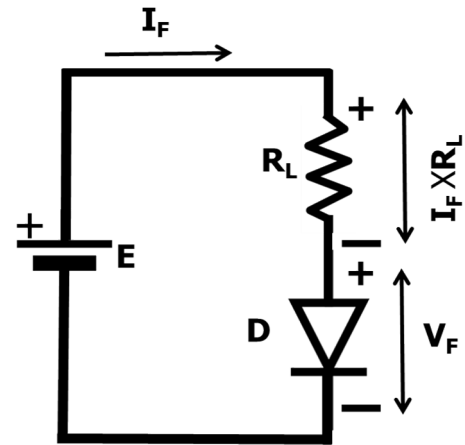

Fig 2.16
### 2.4.1 How to draw a DC Load line? Refer fig 2.16
**Problem 2.8:** Let us draw a DC load line for the ckt in fig 2.16 where  $E = 6 \text{ V}$  and  $R_L = 150 \Omega$
Recall from fig 2.16,